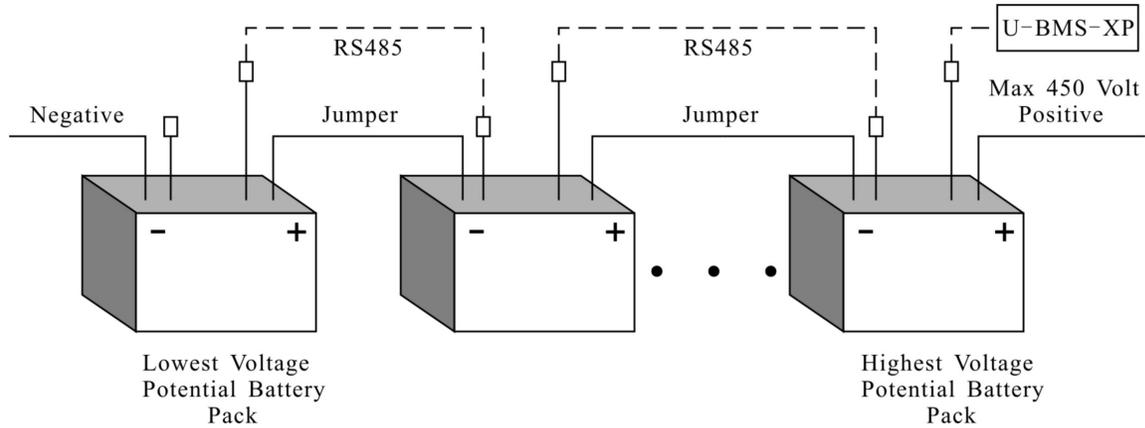

Figure 3: Installation of U-Charge® XP Power Systems in Series.
1. Add additional jumpers to complete the series string as depicted in Figure 3.